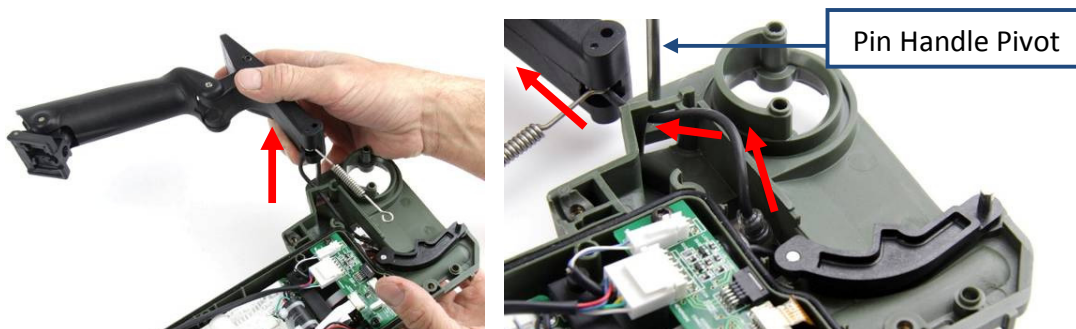

Figure 82: Removing Handle and Cable
- Pass the wiring loom handle through the top of the detector. Figure 82.